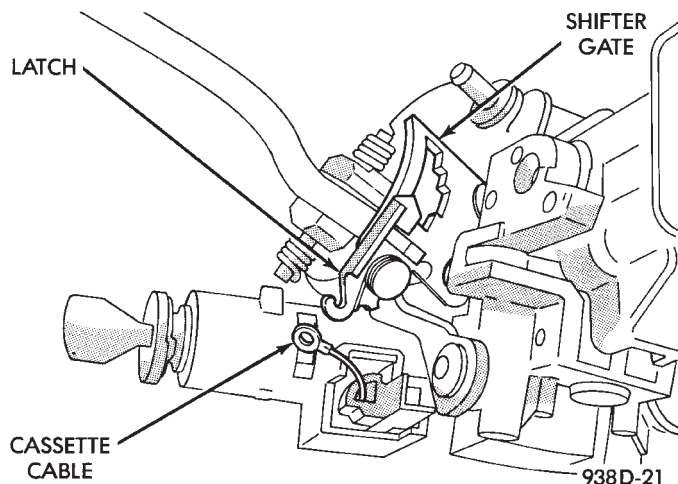

Fig. 11 Latch and Shifter Gate
(1) Ensure the latch rotates freely on the shifter gate (Fig. 11).
(2) With the shifter in Park and the key removed, install the cable over the hook on locking arm of the shifter mechanism.